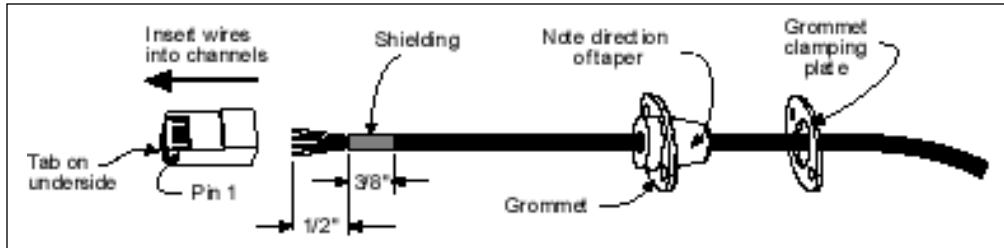

Figure 6-12 Outdoor Transceiver End of the Interconnect Cable with Shielding
7. Using a piece of 1 inch squared tinned copper foil, wrap the foil around the shield/braid and sheath with the left edge aligned with the edge of the braid, as shown in the following Figures 6-12 and 6-13.